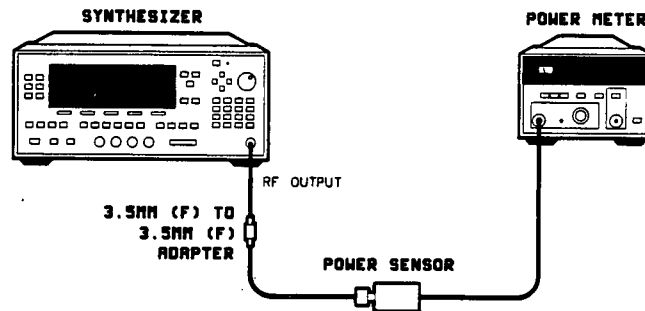

Figure 3-27. Power Accuracy Adjustment Setup
1. Preset the equipment shown in figure 3-27 and let them warm up for at least one hour. Do *not* connect the power sensor to the synthesizer RF OUTPUT yet.